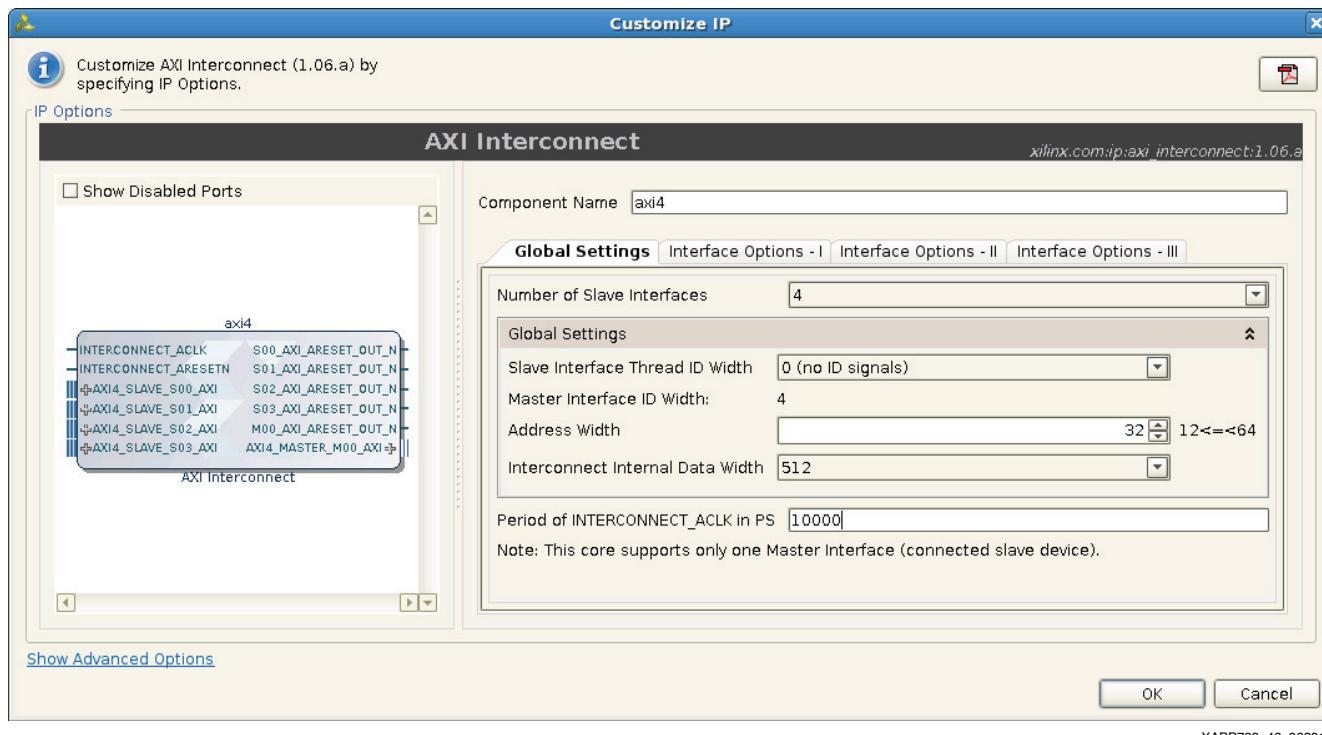

Figure 46: AXI Interconnect Global Settings
35. In the Global Settings tab of the AXI Interconnect IP configuration GUI, configure the interconnect to support connections from four master endpoint IP cores to one slave. Each AXI_VDMA contains a separate read-only and write-only interface, resulting in a total of four masters between both AXI_VDMAs. The following settings should be used for this configuration (Figure 46):